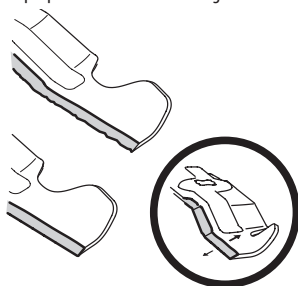

Figure 39
4. To properly sharpen the cutting blades, remove equal amounts of metal from both ends of the blades along the cutting edges, parallel to the trailing edge, at a 25° to 30° angle. Always grind each cutting blade edge equally to maintain proper blade balance. See Figure 39.